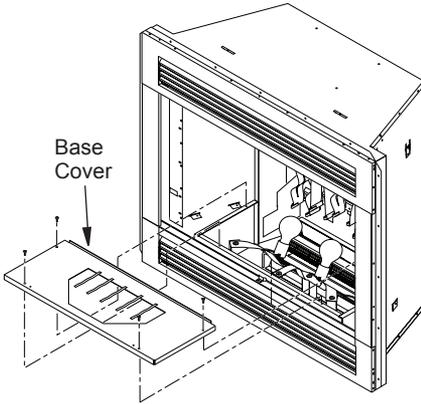

Figure 34 - Removing Base Cover
7. Remove 4 Phillips screws on base cover and lift cover off cabinet base. See Figure 34, page 19.